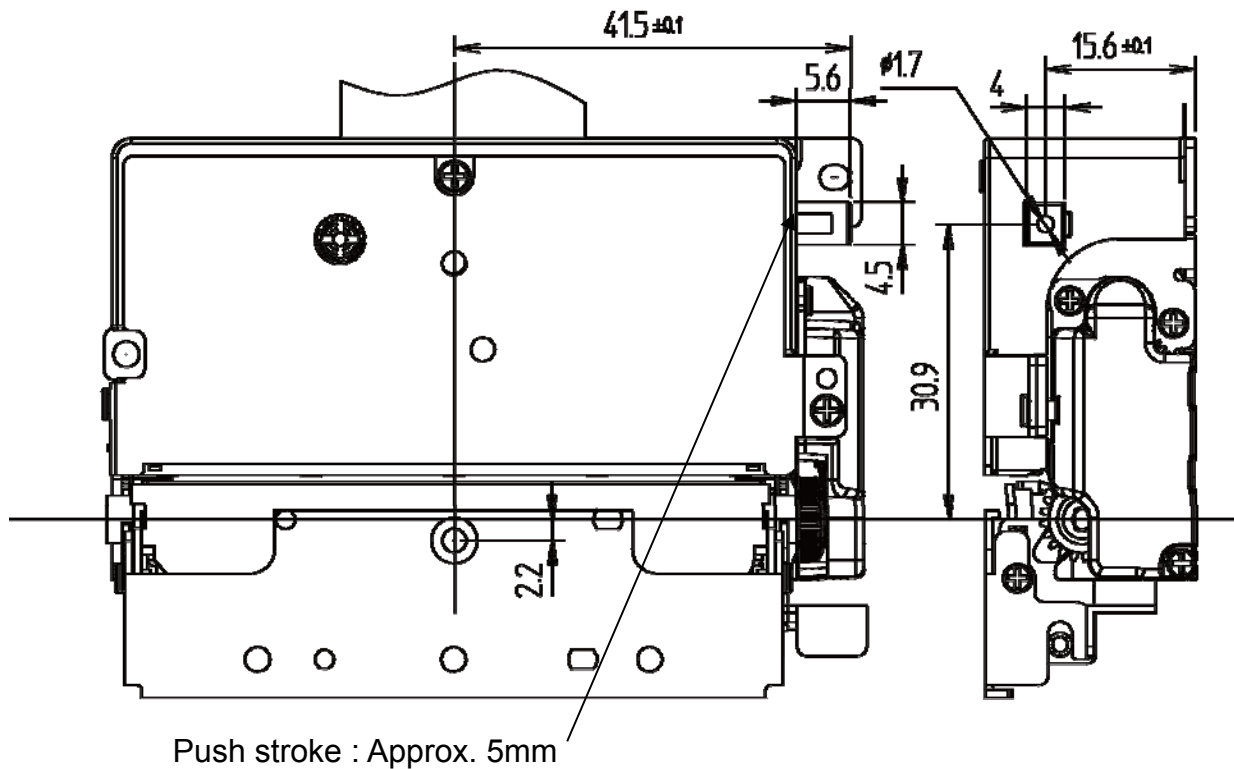

Fig 12-5 Dimension related to the assembly of the push button lever
- Refer to the dimensions related to the mechanism in Fig 12-5 for installing the push button lever.